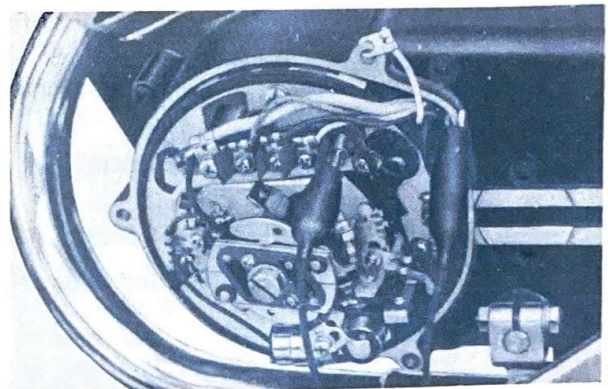

Fig. 6-6-3
(1) Inspection
- Disconnect the lead from the dynamo A terminal, connect the tester positive lead to the A terminal, and then ground the negative lead to the frame. (Fig. 6-6-3)